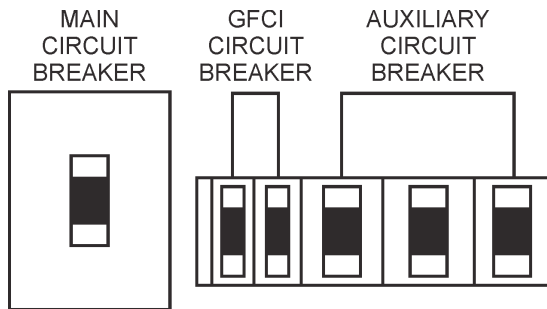

Figure 44. Main, Aux. and GFCI Circuit Breakers
1. Be sure and place the **main, G.F.C.I.** and **aux.** circuit breakers (Figure 44) in the "OFF" position prior to starting the engine.